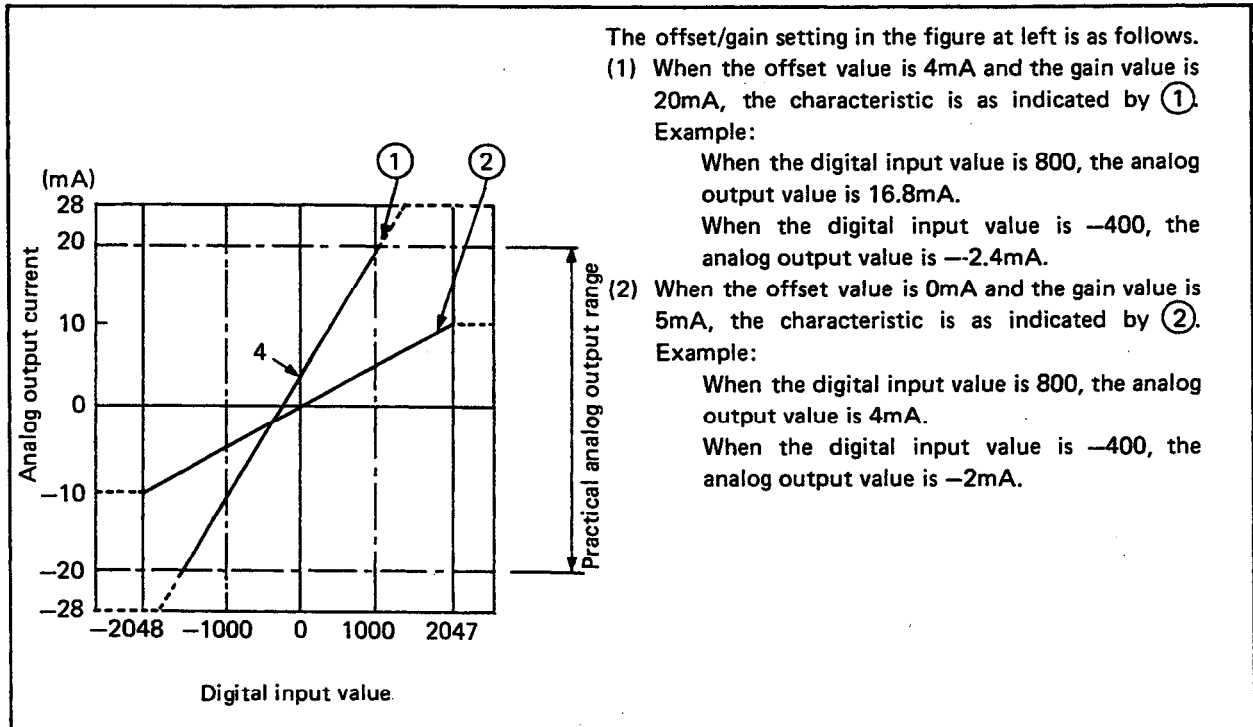

Fig. 3.3 Current Output Characteristic
Fig. 3.3 shows a current output characteristic graph for several offset/gain settings.
1. The maximum resolution and overall accuracy are within the range of performance specifications when the working analog current range is -20 to 0 to +20mA. Avoid use outside the above indicated range (dotted line on the current output characteristic graph in Fig. 3.3).